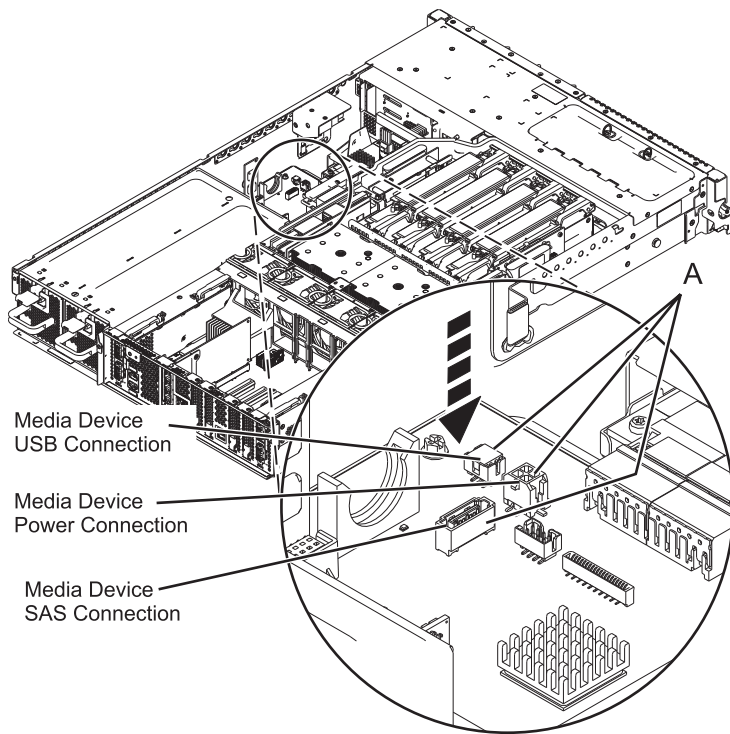

Figure 22. Connecting the media device cables
- a. Connect the media device cables. Connect the media device cables, if present, by firmly pressing the cable connectors into the cable receptacles (A). See Figure 22 on page 23.